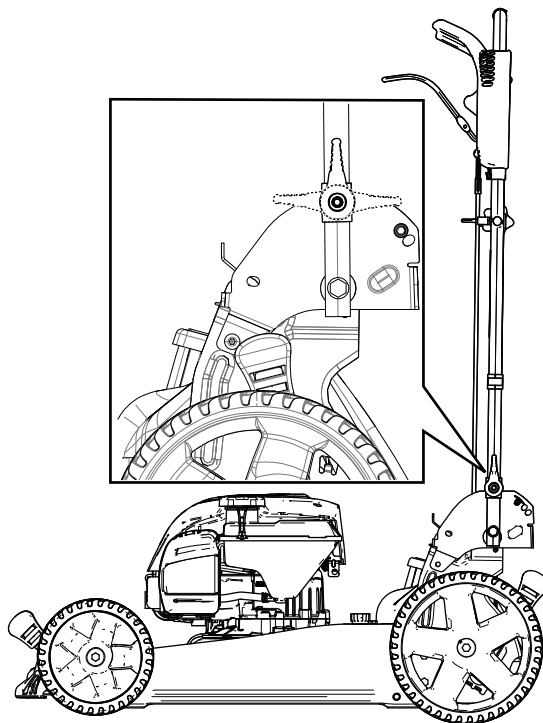

Figure 20
3. Fold the handle forward either to the vertical position or the fully forward position as shown in Figure 20.